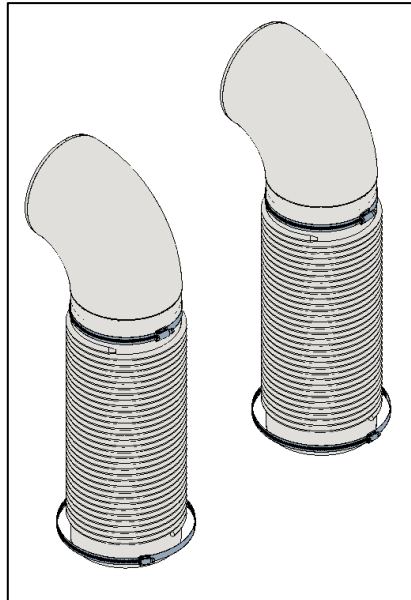

Figure 3-29: Installation of 90° Elbows on CAC8 Ducts
6. Install the 90° elbows on one end of the ducts and secure them with the worm gear clamps (Figure 3-29).